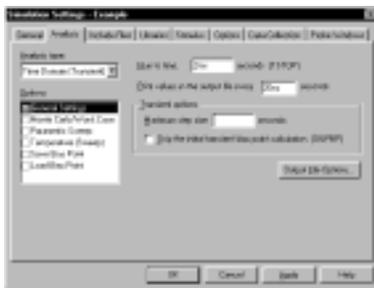

Figure 15 *Transient analysis simulation settings.*
- 5 From the Analysis list, select Time Domain (Transient) and enter the settings shown in Figure 15.